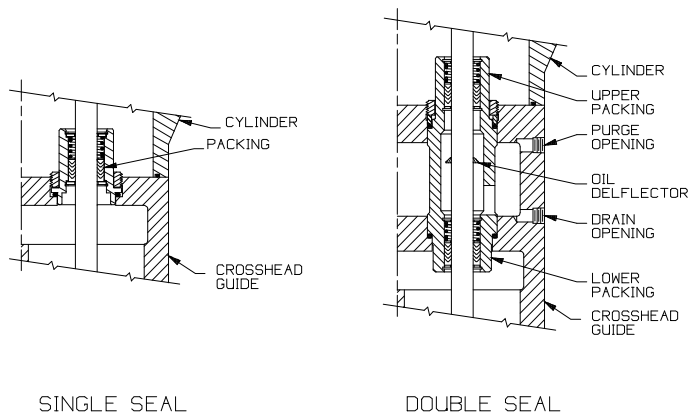

Figure 12 - Typical Seal Assembly
3. Ensure that the 6th digit of the Compressor ID number is a "1", indicating a TYPE 1 packing arrangement. See "Nameplate Data" in this manual. Refer to Figures 12 and 13 for proper TYPE 1 component location and orientation.